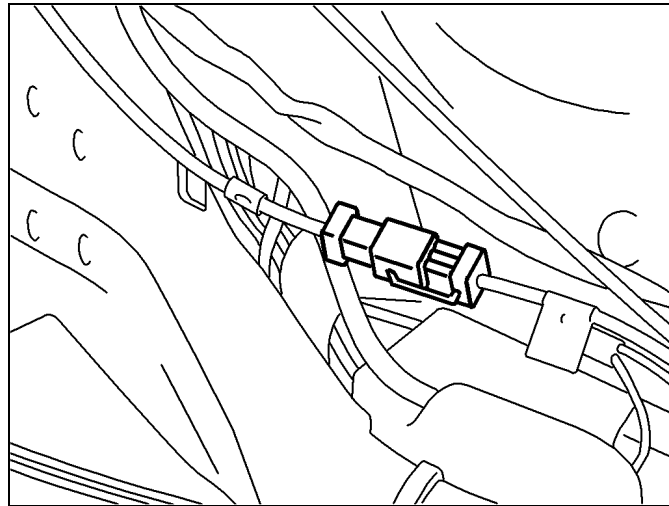

Figure 2
- a) In-line couplers (Figure 2) Disassemble by gently prying up from the side of the clip closest the connector, one or both metal spring clips on either side of the connector.